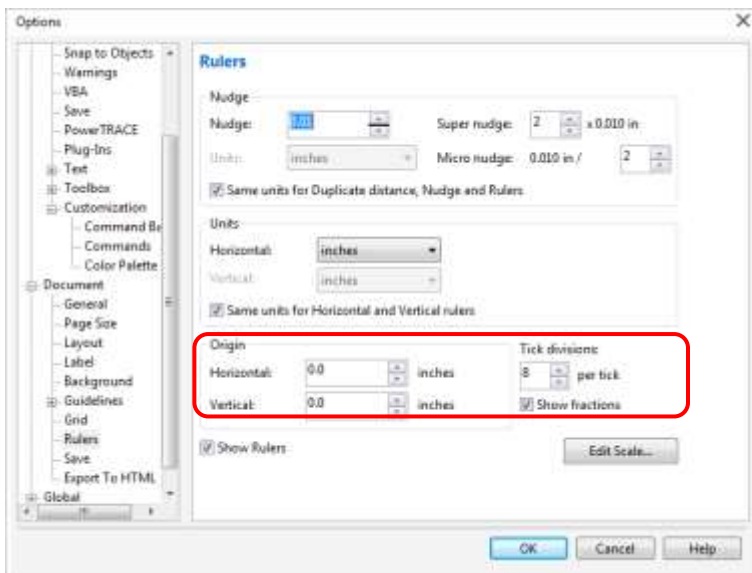

Figure A3-2
2. Please **DO NOT** make any changes to the "Origin" section when you choose to add registration marks by page size as indicated below otherwise the position of the marks will be changed (please see Figure A3-2).